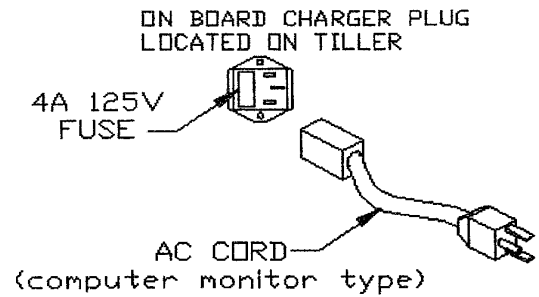
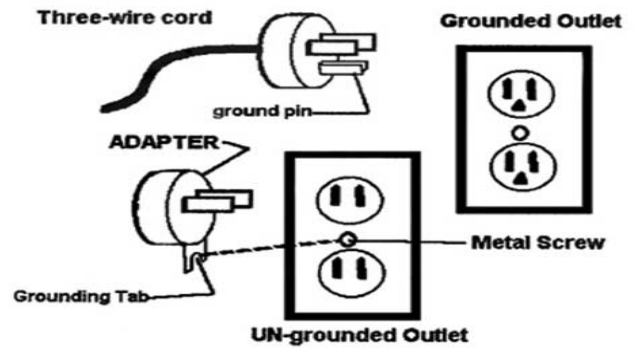

FIGURE 10
FIGURE 11
1. Connect the AC power cord to the receptacle located on the scooter tiller (See FIGURE 10), and then to a properly grounded AC outlet (See FIGURE 11). (refer to grounding instructions) *As a safety feature, the scooter will not operate when the charger cord is plugged into the wall outlet and the charger is operating.*